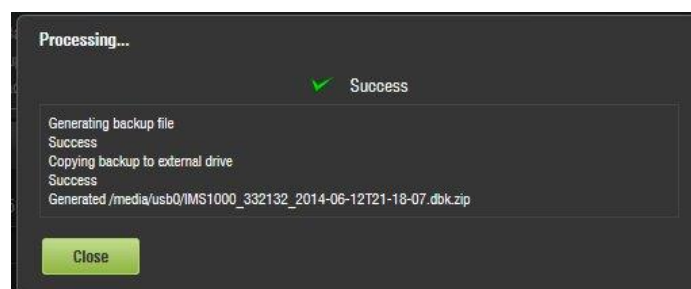

Figure 200: Backup Generation Window
- The Backup Generation window will appear (Figure 200). This will indicate the backup process was a success.